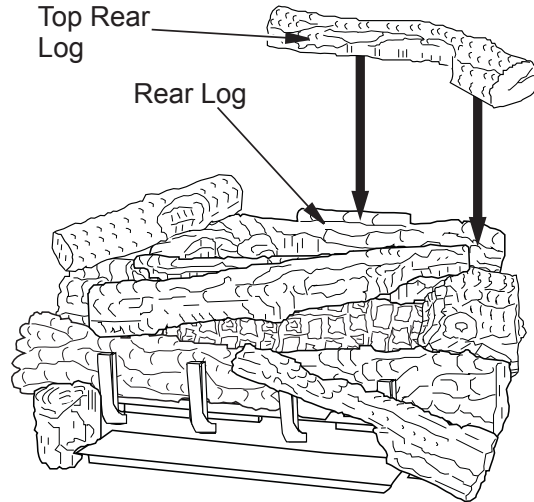

Figure 39 - Installing Top Rear Log
- Place the top rear log onto the rear log as shown. The rear log has a projection that will fit into the recess area on the bottom of the top rear log (see **Figure 39**).